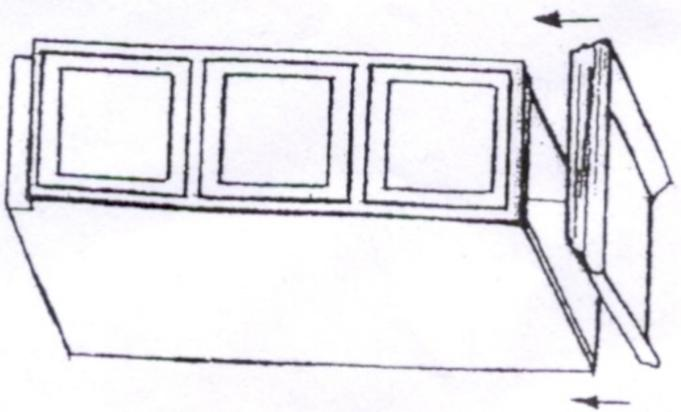

FIG. 4
STEP 4: Important: Two-person assembly. Place the unit in an upright position while holding Back Panel in place. Open cabinet door (one at a time) and fasten all assembly connectors in the back. Insert shelf holders and install Shelves (E). Install door knobs/pulls to complete assembly - Fig. 4
STEP 5: For "KL" model only - Assembly of Top Panel with crown molding: Place the Top Panel on the top of cabinet with assembly connectors aligned. Open cabinet door and lock connectors from inside. Attach the front sill/molding to the bottom of cabinet frame with 3 supplied screws. Fig. 4.